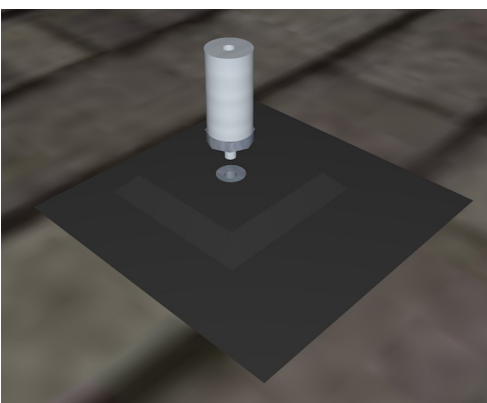

Fig. 5
6. Thread the Double Stud and stand-off into the hole sandwiching the flashing between the top of the base plate and Double Stud (washer). Turn Double Stud (by hand) until flashing is compressed between top of base plate and washer. Once Flashing is in contact with Base Plate and washer, turn Double Stud 1/8 to 1/4 turn to tighten. This is done best by marking the starting position of the stub and the base plate with chalk or a marker, giving the installer a reference point. **DO NOT OVER TIGHTEN.** See Figure 5